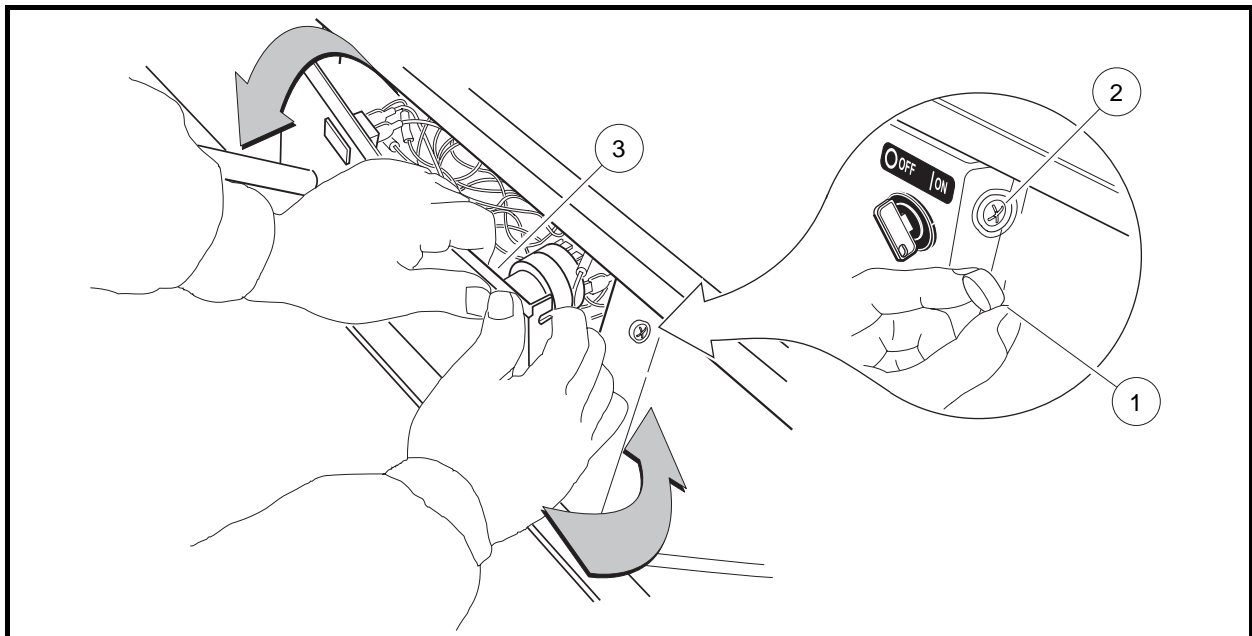

Figure 13-1 Dash Removal
2. Remove the center dash panel (**Figure 13-1, Page 13-1**).
- 2.1. Remove the plastic cap (1) covering the mounting screw (2) on each side of the center dash panel (3) (**Figure 13-1, Page 13-1**).